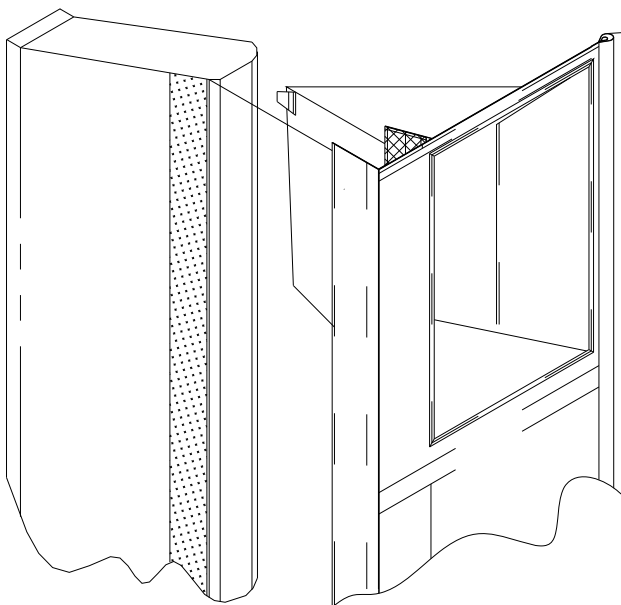

FIGURE 15
1. Align top edge of side curtain, 1/4 - 1/2" above the top edge of side frame at the same time aligning the velcro flap on the outside of the side curtain to the velcro on the outside of the side frame. (See Figure 15). (**Important Note**: The top 6"-7" of the side frame's construction does not have the HMWPE poly panels in it, just foam. So when attaching velcro at the top, please take care and not let the weight of the side curtain pull down on the side frame fabric cover. Attach velcro at top and hold up side curtain's weight until at least 24" of the side curtain outside velcro is attached.)